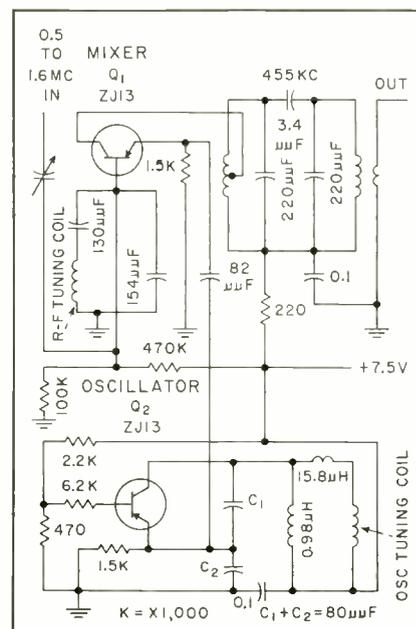
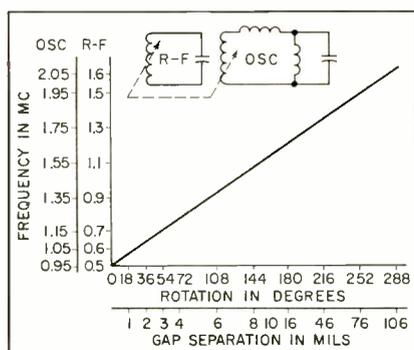
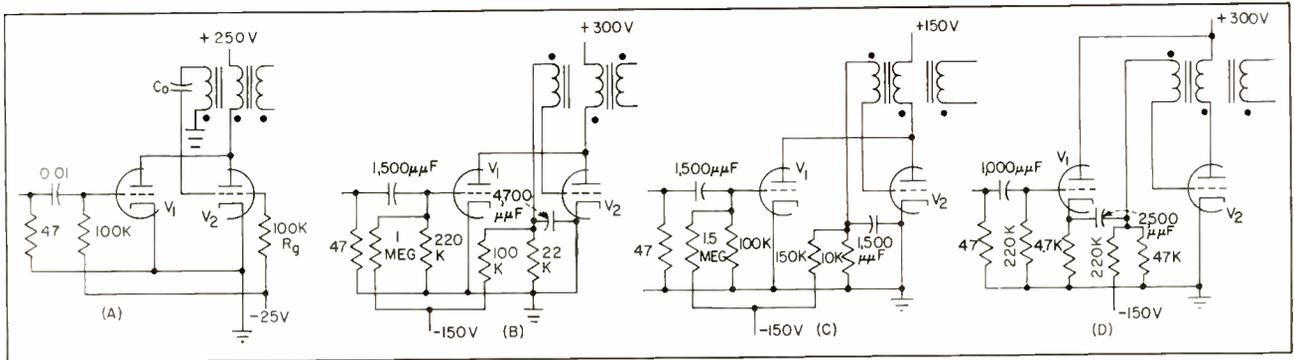

FIG. 5—Transistorized circuit checks r-f tuner whose linearity and tracking characteristics are shown in Fig. 4
FIG. 4—Straight-line tracking is achieved with rotary-axial tuner
FIG. 1—Four blocking oscillators include standard circuit (A) and three National Bureau of Standards preferred circuits (B), (C) and (D)
Three-point tracking of the r-f coil is obtained by placing shunt and series coils, together with a new tuning capacitance, in parallel with the r-f coil. A 2 to 1 oscillator-frequency range results. The oscillator tuning follows the r-f tuning curve as shown in Fig. 4.
To show the application of the tuner to transistorized circuits, the tuner r-f coil is connected by a capacitance divider to the input of the transistorized mixer circuit shown in Fig. 5. Mixer output is fixed tuned with a coil resonant at 455 kc. The oscillator coil of the tuner is connected through two trimmer coils to the collector of transistor  $Q_2$  which acts as a Clapp oscillator. The oscillator signal is capacitance-coupled to the emitter of the mixer stage. After making adjustments for stray capacitance, the tuner operates with the linearity and tracking characteristics of Fig. 4.
Duplicating beam count positions in the various divider stages for visual indication, without interrupting their continuous counting is accomplished with the aid of additional beam-switching tubes. As shown in Fig. 1 these are called count-storage stages. The combined readout and count storage circuit is shown in Fig. 5.
**FIG. 5—Combined circuit showing count storage, transfer and readout. Network duplicates and stores beam count positions in various divider stages without interrupting the continuous counting operation and fires numerals**
Four test circuits shown in Fig. 1 provide data from which the pulse-
where  $N_{eff}$  is effective pulse permeability,  $L_{FB}$  is the mean length of magnetic path and  $A$  is core gross area, establishes the open circuit inductance for use in calculating the control capacitance value in circuits other than Fig. 1 B, C and D. The average value of effective pulse permeability should be used in all cases.